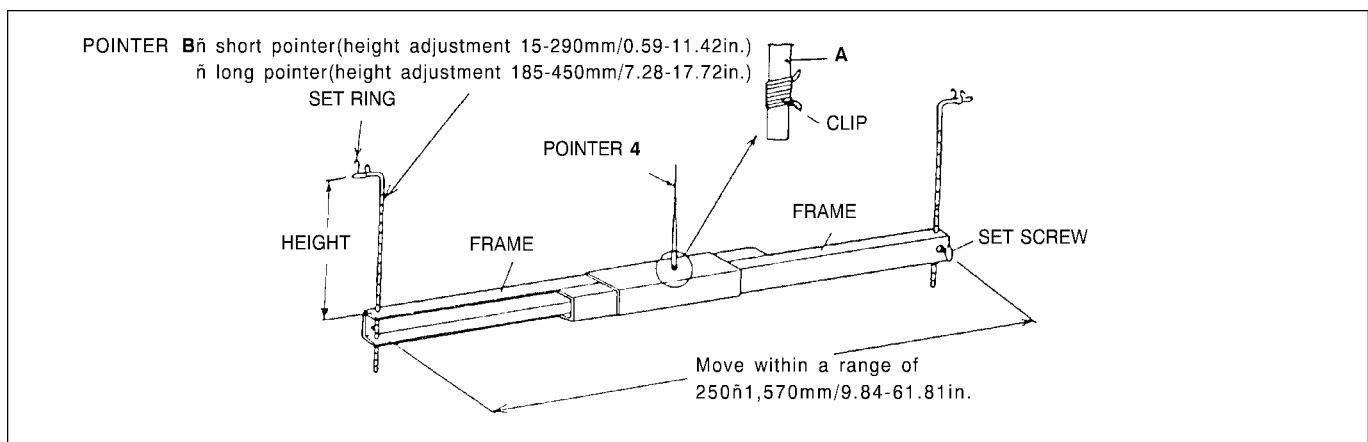

Fig. 5-2
- If there is any twisting to the body, measure using a frame centering gauge.(Below Fig. 5-2)